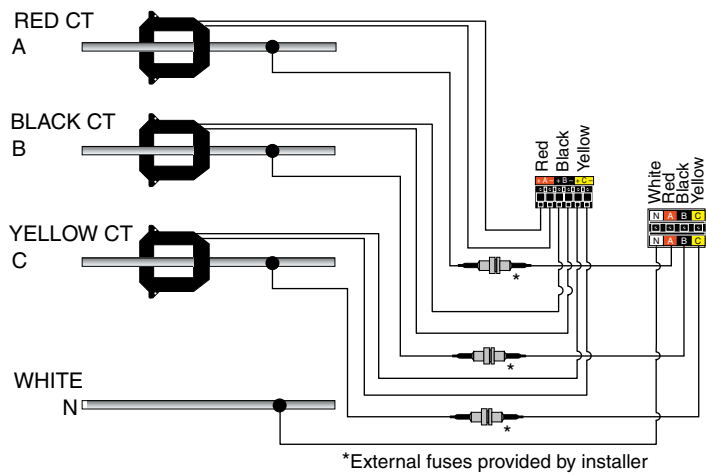
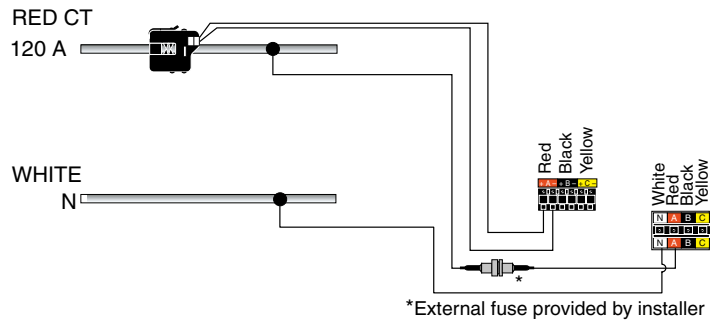

Figure 7: 3-phase, 4-wire installation
Figure 9: 1-phase, 2-wire installation
- Attach CT leads to appropriately colored CT input terminals (e.g., red lead to red terminal) as shown (see Figure 7 through Figure 9). Polarity is indicated, with the minus (-) terminals connected to neutral within the meter, but polarity is insignificant to the operation of the meter.
- Connect voltage leads to phase conductors as shown (see Figure 7 through Figure 9). Connect leads from the colored voltage terminals to the power conductor with the matching CT (e.g., red CT lead to red terminal). Since the meter is powered from the monitored source (red and neutral terminals), it is important to connect the voltage leads to a circuit that is not normally switched off.